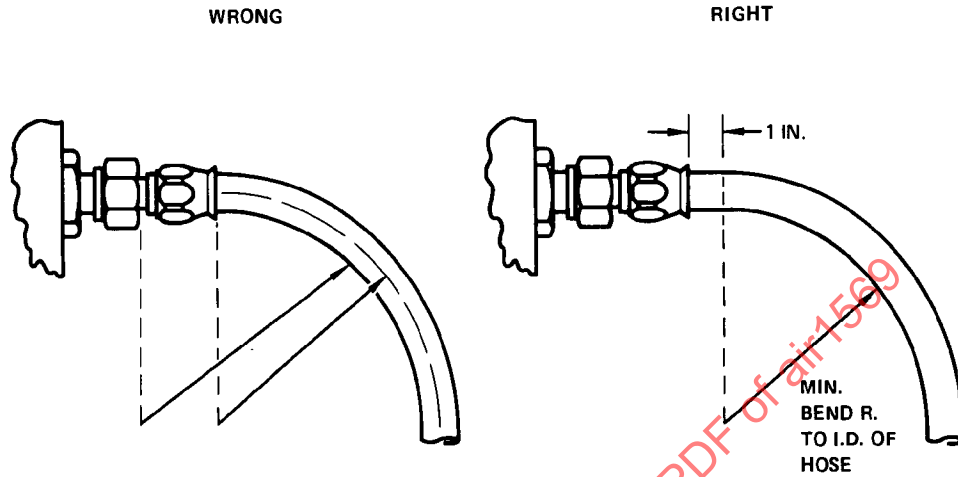

FIGURE 10
5.2.7.1 Measurement of Bend Radius: Measure the bend radius from the inside of the bend. Allow at least one inch straight run out of the fitting. (See Fig. 10).